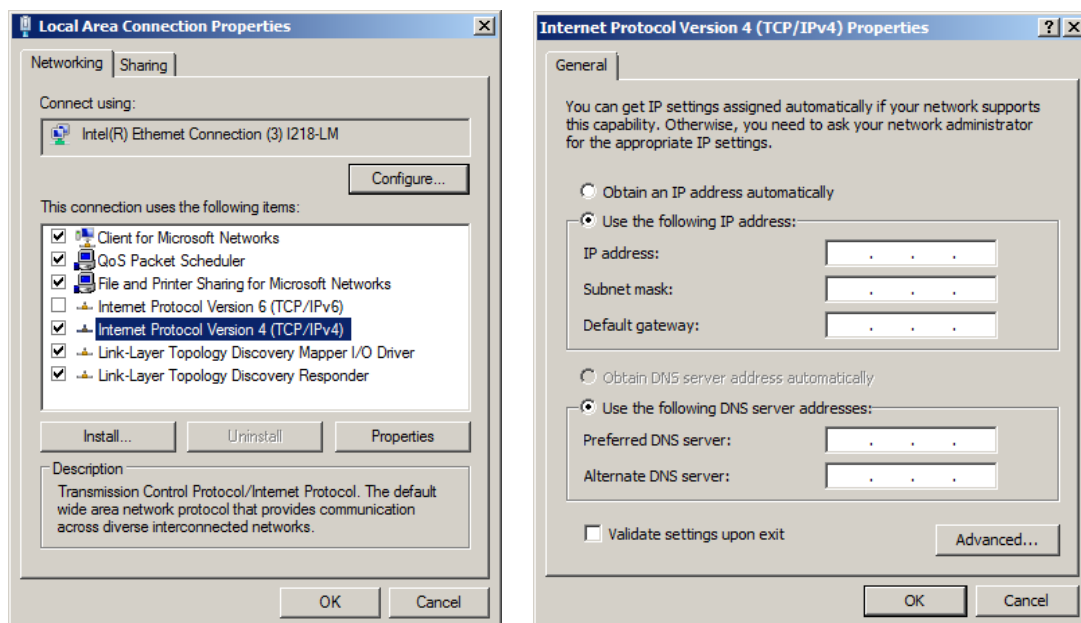

Figure 7-5: PC Network Setting
- Click **Properties** and select **Use the following IP address** as shown at Figure 7-5.